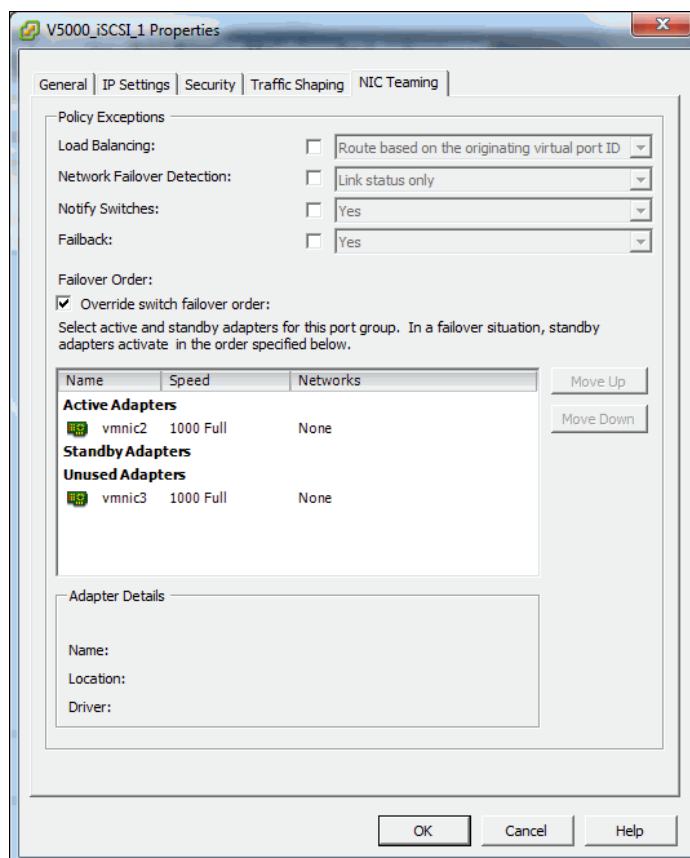

Figure 5-35 Configuring a VMkernel port to bind to a single physical adapter port
3. Click the **NIC Teaming** tab. Select **Override switch failover order** and ensure that each port is tied to one physical adapter port, as shown in Figure 5-35.